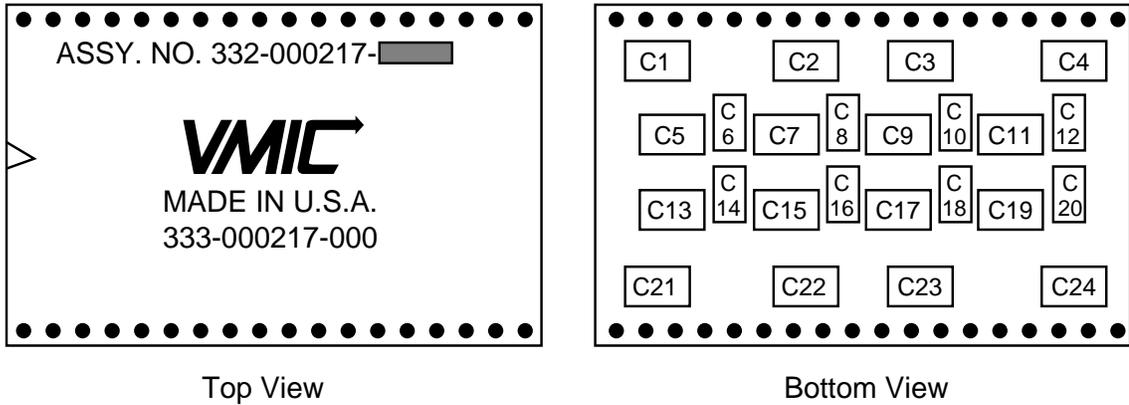
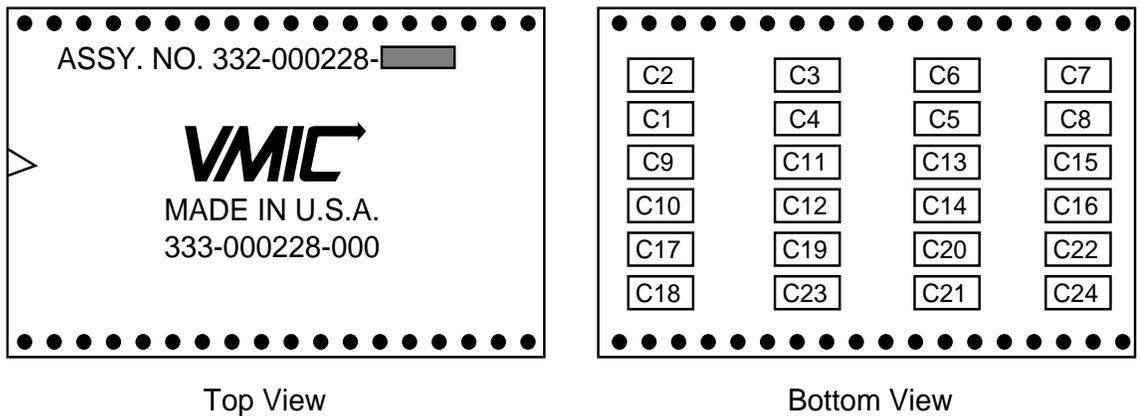

Figure 2-2 Assembly Drawing of the 0217 Filter Board
Figure 2-3 Assembly Drawing of the 0228 Filter Board
1. Determine the desired -3 dB cutoff frequency. Note if the frequency desired is less than 190 Hz, the filter module 332-000217 (Figure 2-2 on page 39), is best suited. Likewise, use the filter module 332-000228 (Figure 2-3 on page 39), for frequencies between 190 Hz and 18 kHz. Resistance (R) should remain within $500 \Omega < R < 100 \text{ k}\Omega$ to prevent any problems with offset voltages and bias currents.